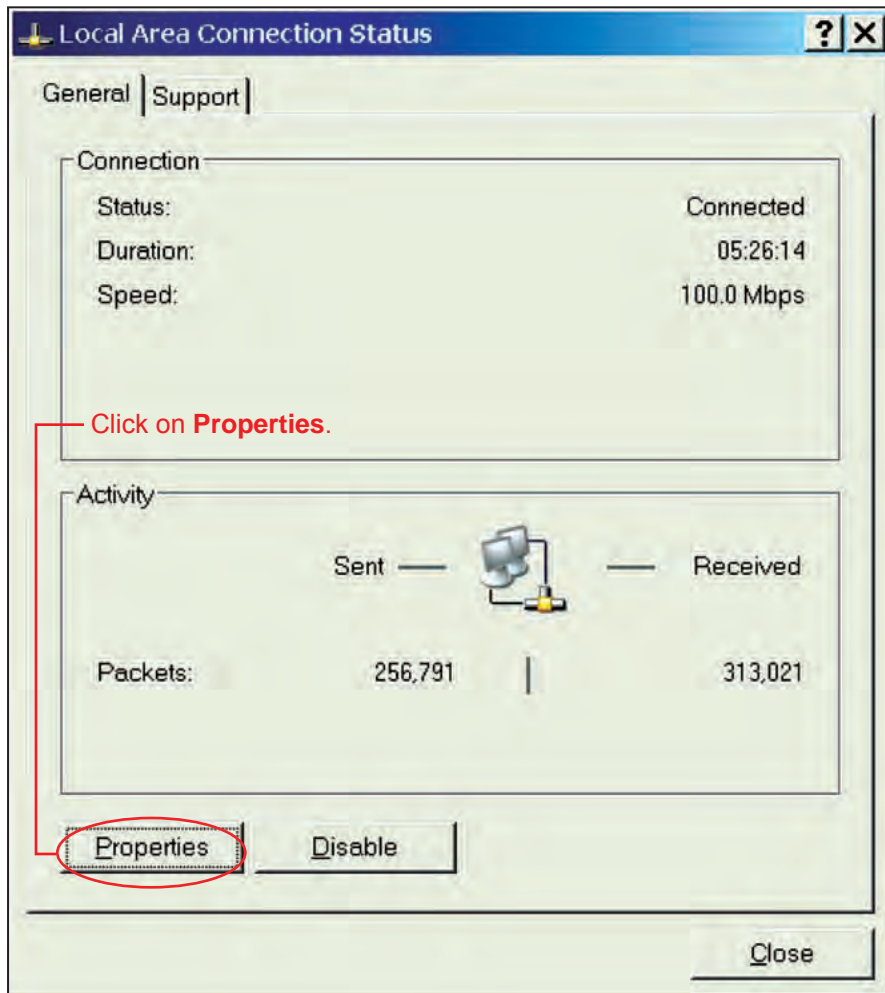

Figure 4-2. Properties For Local Area Connection.
3. Click on **Properties** on the **Local Area Connection Status** screen (Figure 4-2).